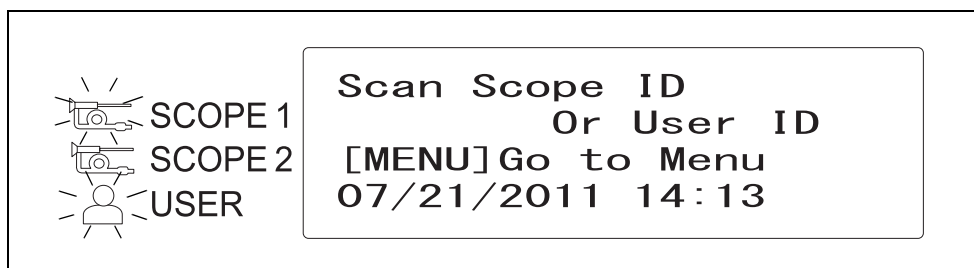

Figure 5.2
- 4 A short beep sounds when the self-check is completed properly. As seen in Figure 5.2, the endoscope ID indicator (SCOPE1) and User ID indicator (USER) indicators blink. The Standby screen is displayed on the LCD.